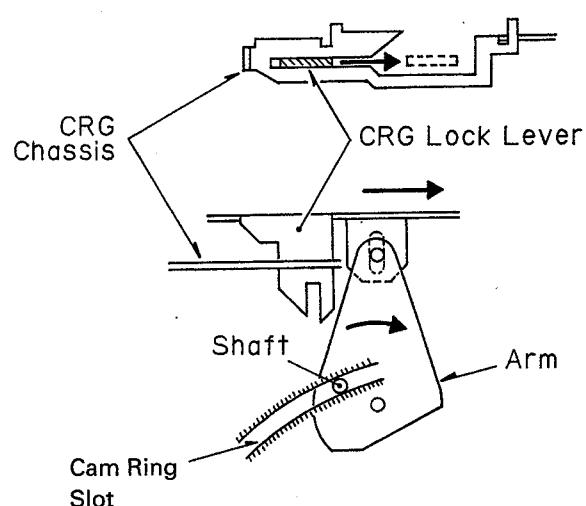

Fig.22
① The cam ring turns causing the arm to rotate. The contraction of the arm tip and the CRG lock lever's slot are interlinked. When the arm turns, the CRG lock lever slides, thus releasing the CRG chassis's lock (up/down direction). (Fig. 22)